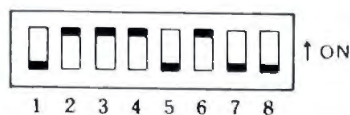

Fig. 5-2-13
- Set the DIP switches on the rear panel of the FM-11 as shown in Fig. 5-2-13.